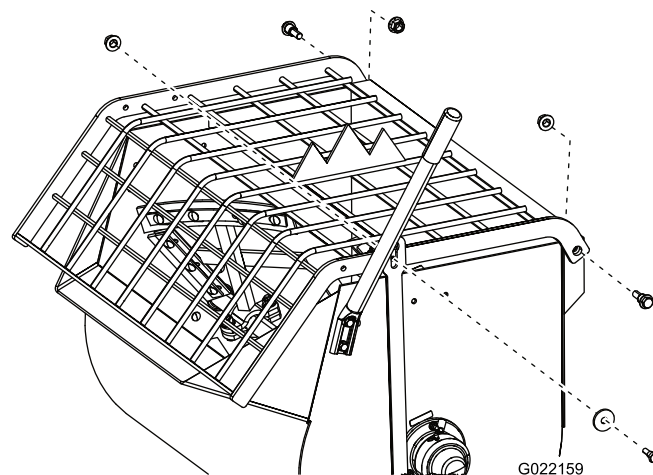

Figure 28
2. Remove the nuts and bolts that secure the grate to the drum, and remove the grate (Figure 28).